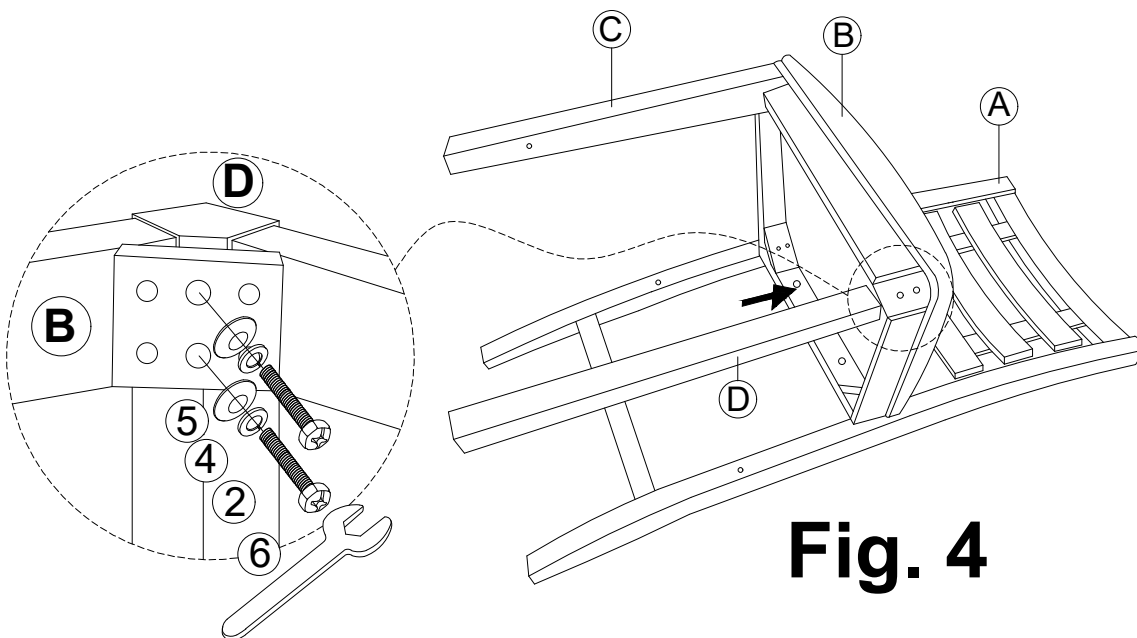

Fig. 4
Step 3: Attach Front legs (D) to Cushion Seat (B) using the provided hardware as shown Fig. 4.